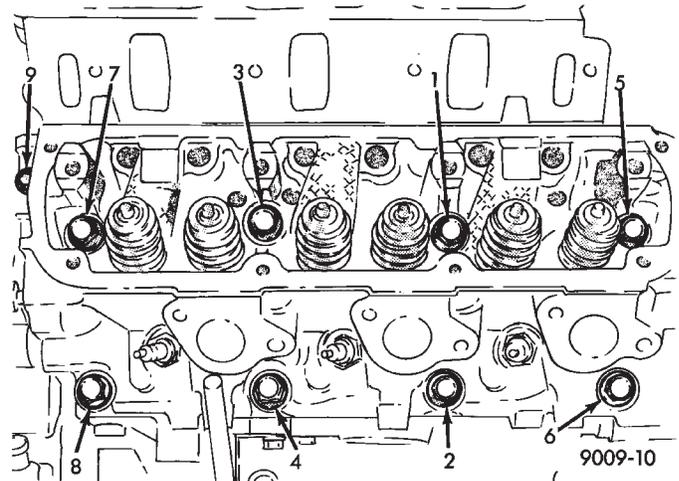
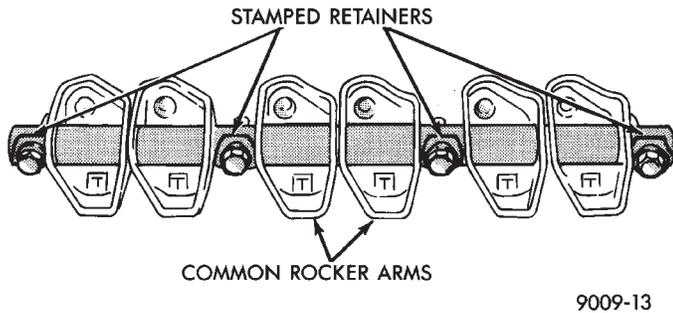

Fig. 11 Cylinder Head Tightening Sequence
Fig. 12 Rocker Arm Shaft Retainers
(3) Tighten the cylinder head bolts 1 thru 8 in the sequence shown in (Fig. 11). Using the 4 step torque turn method, tighten according to the following values:
(5) Tighten head bolt number 9 (Fig. 11) to 33 N·m (25 ft. lbs.) after head bolts 1 thru 8 have been tighten to specifications.
(6) Inspect push rods and replace worn or bent rods.
(7) Install push rods, rocker arm and shaft assemblies with the stamped steel retainers in the four positions, tighten to 28 N·m (250 in. lbs.) (Fig. 12).
(8) Place new cylinder head cover gaskets in position and install cylinder head covers. Tighten to 12 N·m (105 in. lbs.).